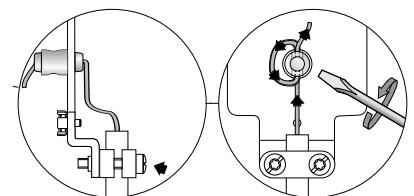

Figure 6: Cable Shortening
3. Remove aircraft cable from safety catch by loosening screw and unthreading cable [Figure 6].
5. Feed aircraft cable back through safety catch making sure to complete one full loop and tighten locking screw. [Figure 6]